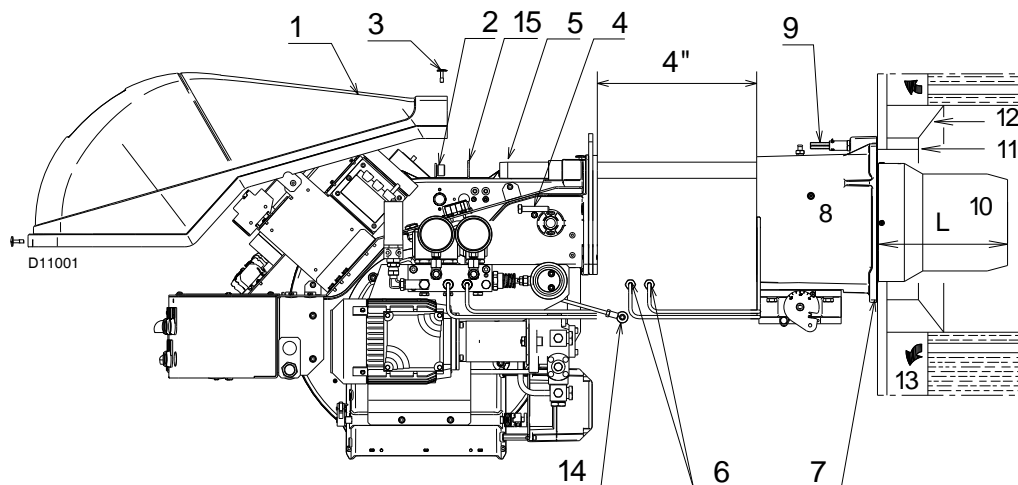
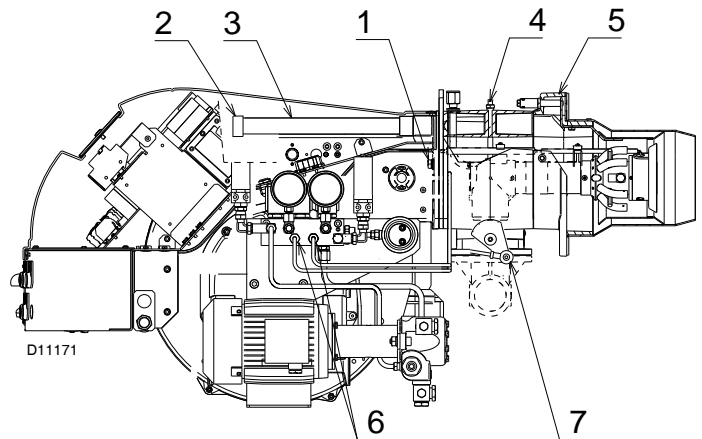

Fig. 11
Fig. 20
This protective insulation must not compromise the extraction of the blast tube. For boilers having a water-cooled front, the insulation 11)-12)(Fig. 11) is not required unless it is required by the boiler manufacturer.
Detach the combustion head from the burner, (Fig. 11):
- Refit the burner to the slide bars 3 (Fig. 20) at approximately 4" from the sleeve 4 - burner positioned as shown in (Fig. 11, page 20) - insert the ignition electrode cables.
- Slide the burner up to the sleeve so that it is positioned as shown in Fig. 20;
- refit screws 2 (Fig. 20) on slide bars 3) including the safety plate 15 (Fig. 11, page 20);
- connect the oil pipes again by screwing on the two connectors 6 (Fig. 11, page 20).